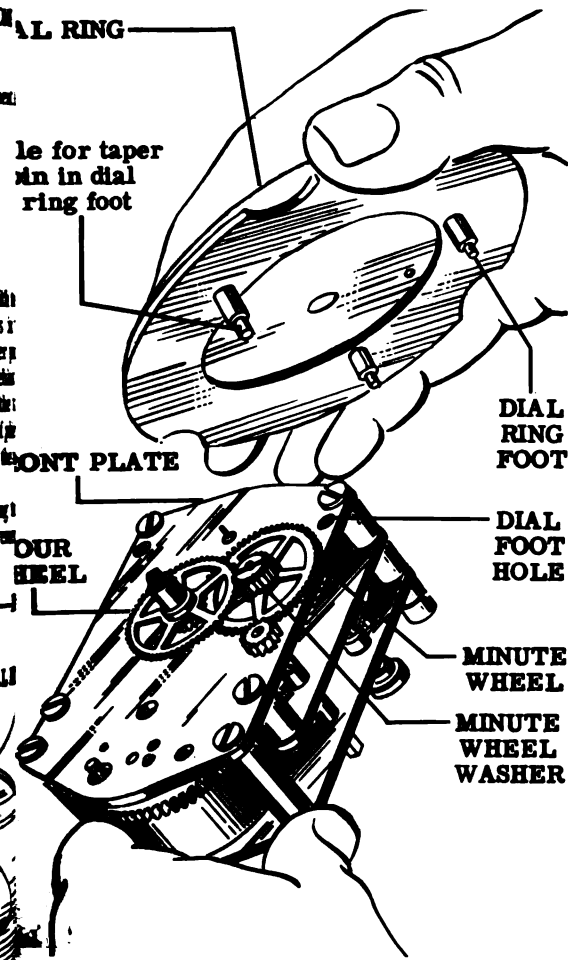

Figure 111—Boat and Deck Clock Movement
- A. See Fig. 111 for replacing the dial on Boat and Deck Clock movements.